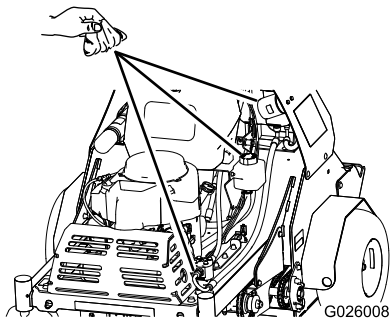

Figure 59
2. Carefully clean area around the front of the auxiliary pump, the fill cap for the reservoir, and the filter (Figure 59).